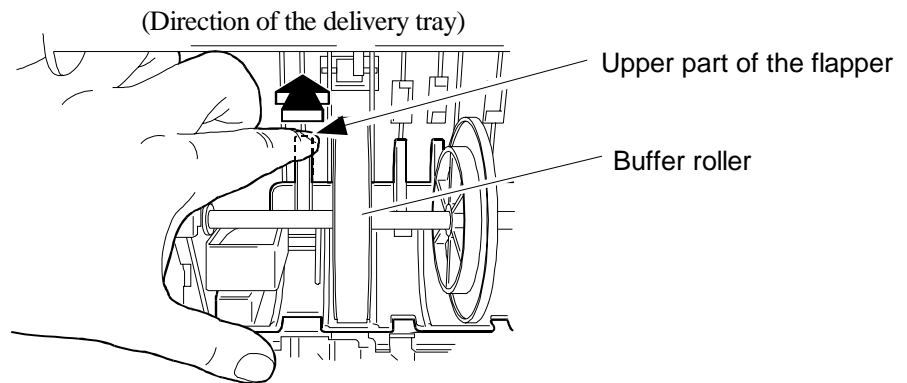

Fig. 7
- 8) With the left hand holding the buffer roller up, open the flapper by pressing down the upper flapper assembly with the finger in the direction of the delivery tray, and hold it in this position (Fig. 7).